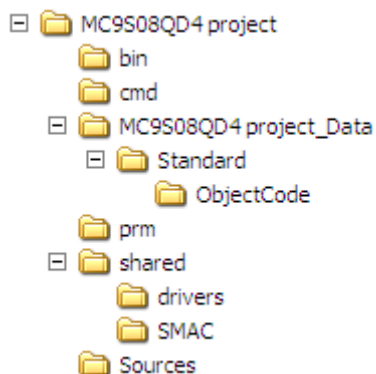

Figure 4. MC9S08QD4 Project Structure
3. Go to the path where the MC9S08QD4 project is stored and create the same three folders. See Figure 4.